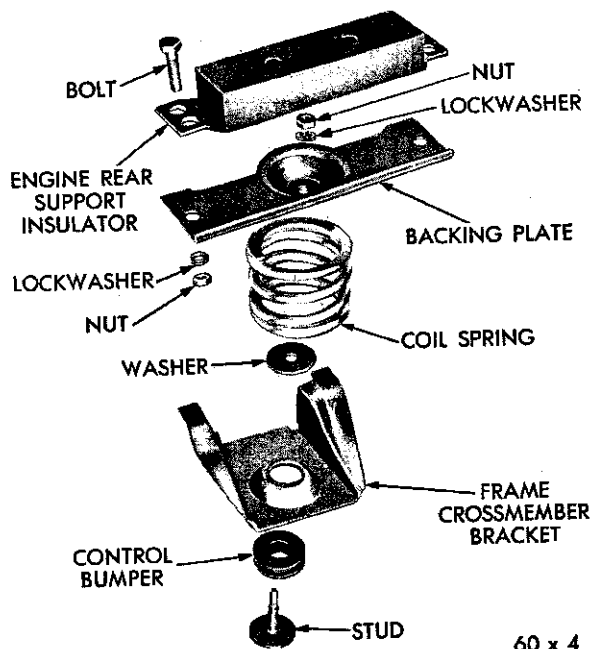

Fig. 51—Rear Engine Mount (Manual Transmission)
**27. REAR ENGINE MOUNT (Figs. 51, 52 and 53)**
When replacing the coil spring refer to Figure 51, 52 and 53 for proper assembly.